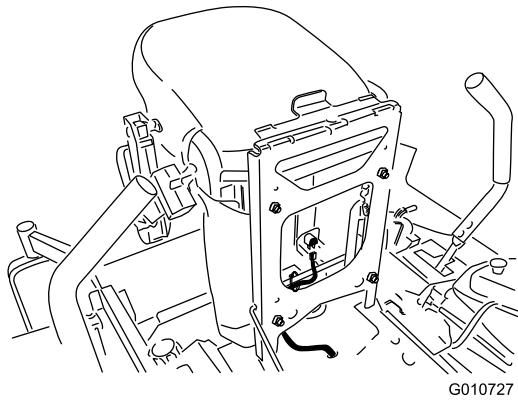

Figure 7
- 4. Plug the harness connector into the seat switch located under the seat (Figure 7).
- 5. Move seat to the furthest rear position. Use the plastic ties to attach the wire harness to seat (Figure 7).